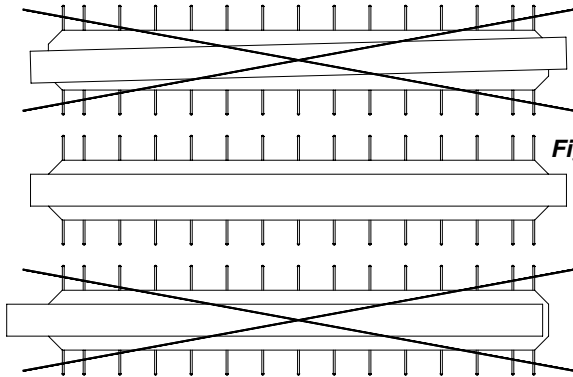

Figure 2
- ② Unhook the sling rings from one side of the load bar. Spread out the sling and straps on the floor making sure that there are **NO twists, wrinkles, or any overlapping material.**
- ③ For proper mat storage, the mat must be rolled evenly and snugly. Make sure that the mat is approximately the same diameter at both ends.
- ④ Roll the mat onto the sling. The mat must be centered on, evenly spaced, and square to the sling (See Fig. 2).